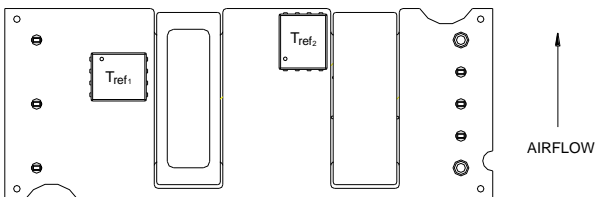
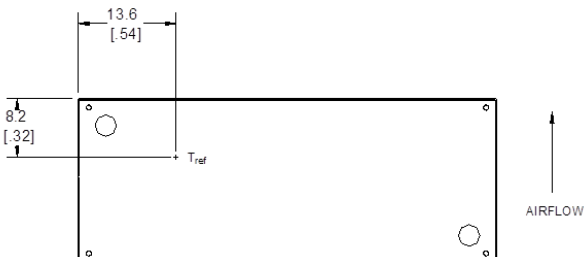

Figure 13. T_{ref} Temperature Measurement Locations for Open Frame Module.
Figure 14. T_{ref} Temperature Measurement Location for Module with Heatplate.
To provide protection under certain fault conditions, the unit is equipped with a thermal shutdown circuit. The unit will shutdown if the thermal reference point, T_{ref} , exceeds 135°C (Figure 13, typical) or 120°C (Figure 14, typical), but the thermal shutdown is not intended as a guarantee that the unit will survive temperatures beyond its rating. The module will automatically restart upon cool-down to a safe temperature.
The thermal reference points, T_{ref1} and T_{ref2} , used in the specifications for open frame modules are shown in Figure 13. For reliable operation these temperatures should not exceed 122° and 123 °C respectively.
The thermal reference point, T_{ref} , used in the specifications for modules with heatplate is shown in Figure 14. For reliable operation this temperature should not exceed 100 °C.